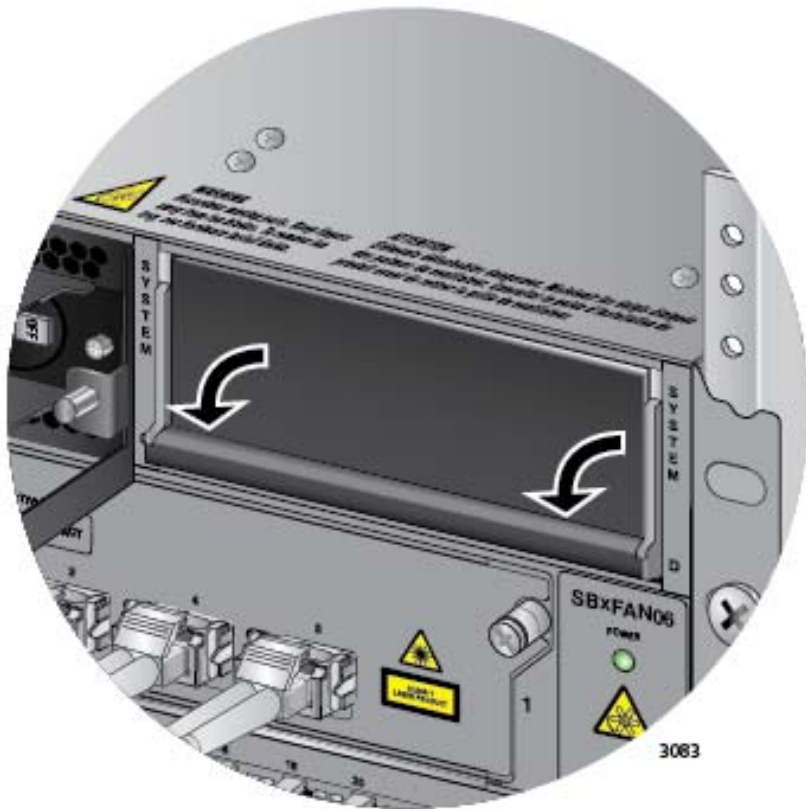

Figure 181. Lowering the Locking Handle on the Power Supply Slot Cover
14. Lower the locking handle to secure the slot cover to the power supply slot. Refer to Figure 181 on page 297.